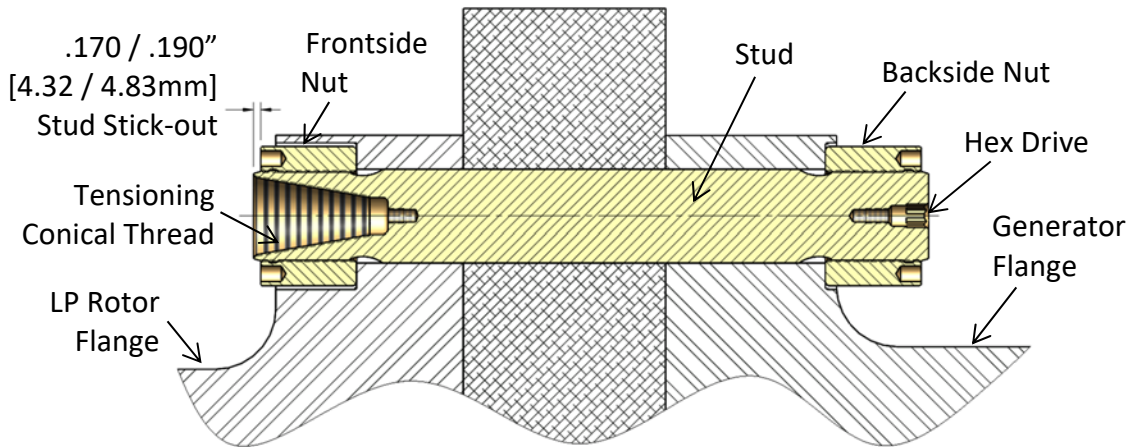

Figure 6A – Cross-section View of Steam Turbine LP Rotor to Generator Bolted Flange Connection
4. Slide the stud and cylindrical nut assembly into the flange as shown in Figure 6A.